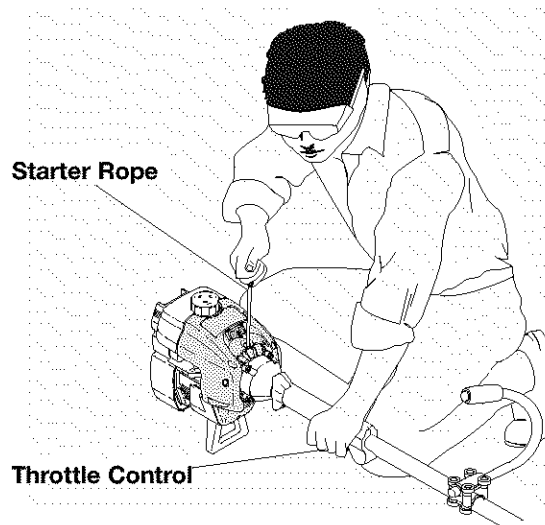

Fig. 9
NOTE: Mix gas with oil (40:1 ratio). See **Oil and Fuel Mixing Instructions** in the **Operation** section. Fill your unit with oil and gas mixture and set it on the ground to start (Fig. 9).
4. Squeeze throttle control and pull starter rope (Fig. 9) until engine attempts to start (5 pulls maximum).
6. Pull starter rope (Fig. 9) until engine starts (3 pulls maximum).